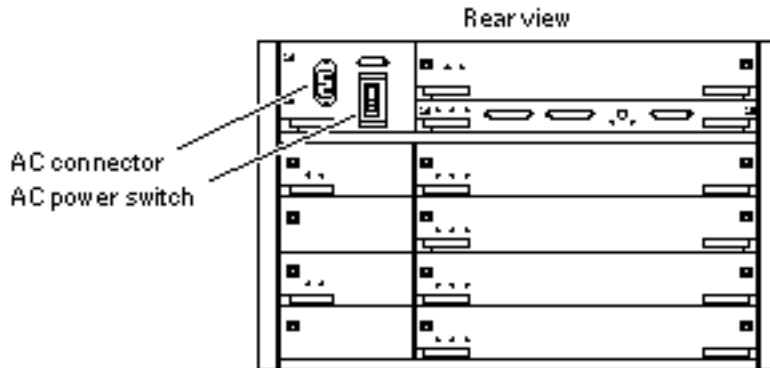

Figure 3-6 AC Power Switch on the Enterprise 4500
- b. **Turn the AC power switch (Figure 3-6) to Off.**
5. Turn the key switch (Figure 3-6) to the On position.